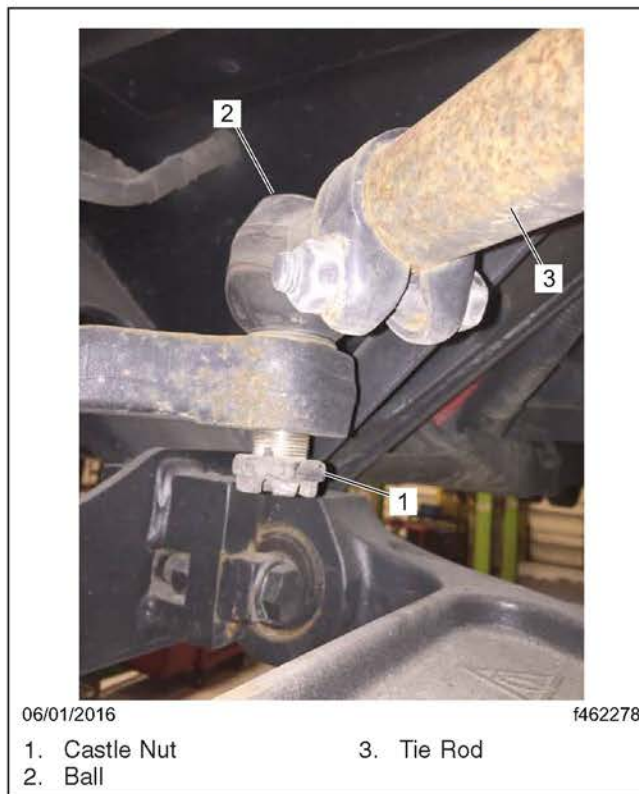

Fig. 3, Tie Rod Assembly
1. Disassemble the left and right tie rods from the pitman arm. See **Fig. 3**.